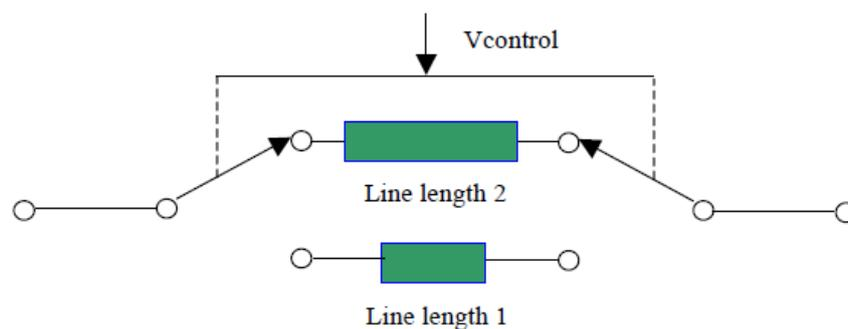

Figure 1 Switched-line phase shifter
1. **Switched-Line Phase shifter:** These phase shifters are similar to their attenuator equivalent where two switches are used to switch two line lengths, one of which is X degrees longer in electrical length than the other. The circuit is shown in Figure 1.
As shown in Fig. 1 Line length 2 has a longer electrical length than line length 1 so when switched in line will cause an in-line phase shift $\Delta\phi=\beta(l_2-l_1)$.